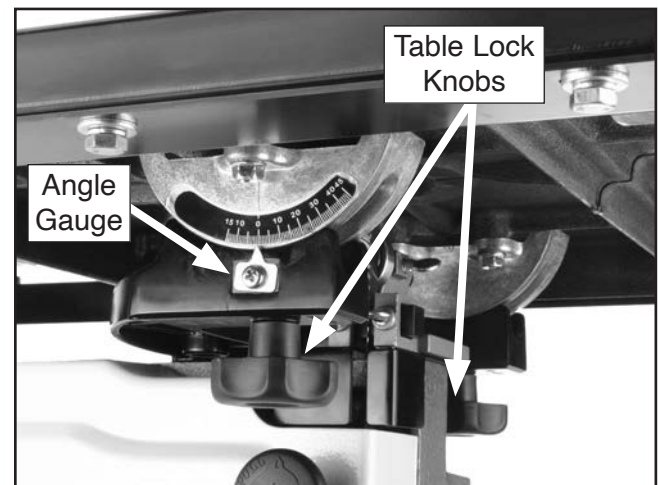

Figure 44. Table tilt controls.
1. Loosen the two plastic lock knobs underneath the table that lock the table trunnion (see **Figure 44**).